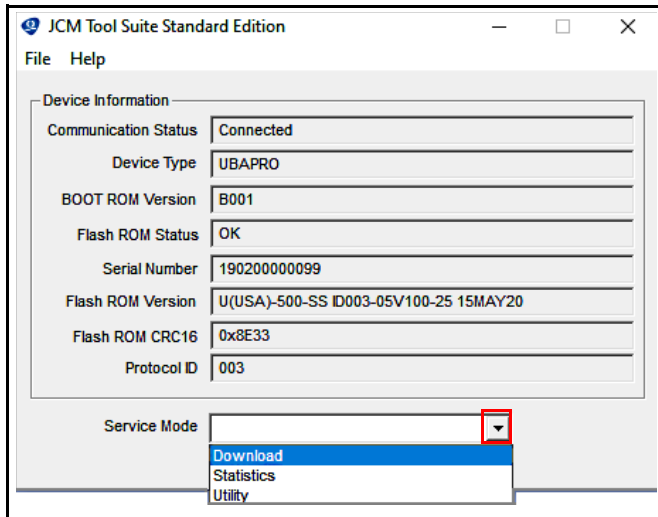

Figure 1 JCM Tool Suite Application (Standard Edition)
The UBA Pro Unit Firmware can be updated using the JCM Tool Suite Application (Figure 1) or a BlueWave™DX Download Tool.
3. Open the JCM Tool Suite Application (Figure 1).
4. Click on the Service Mode drop-down menu arrow to select Download (Figure 1).